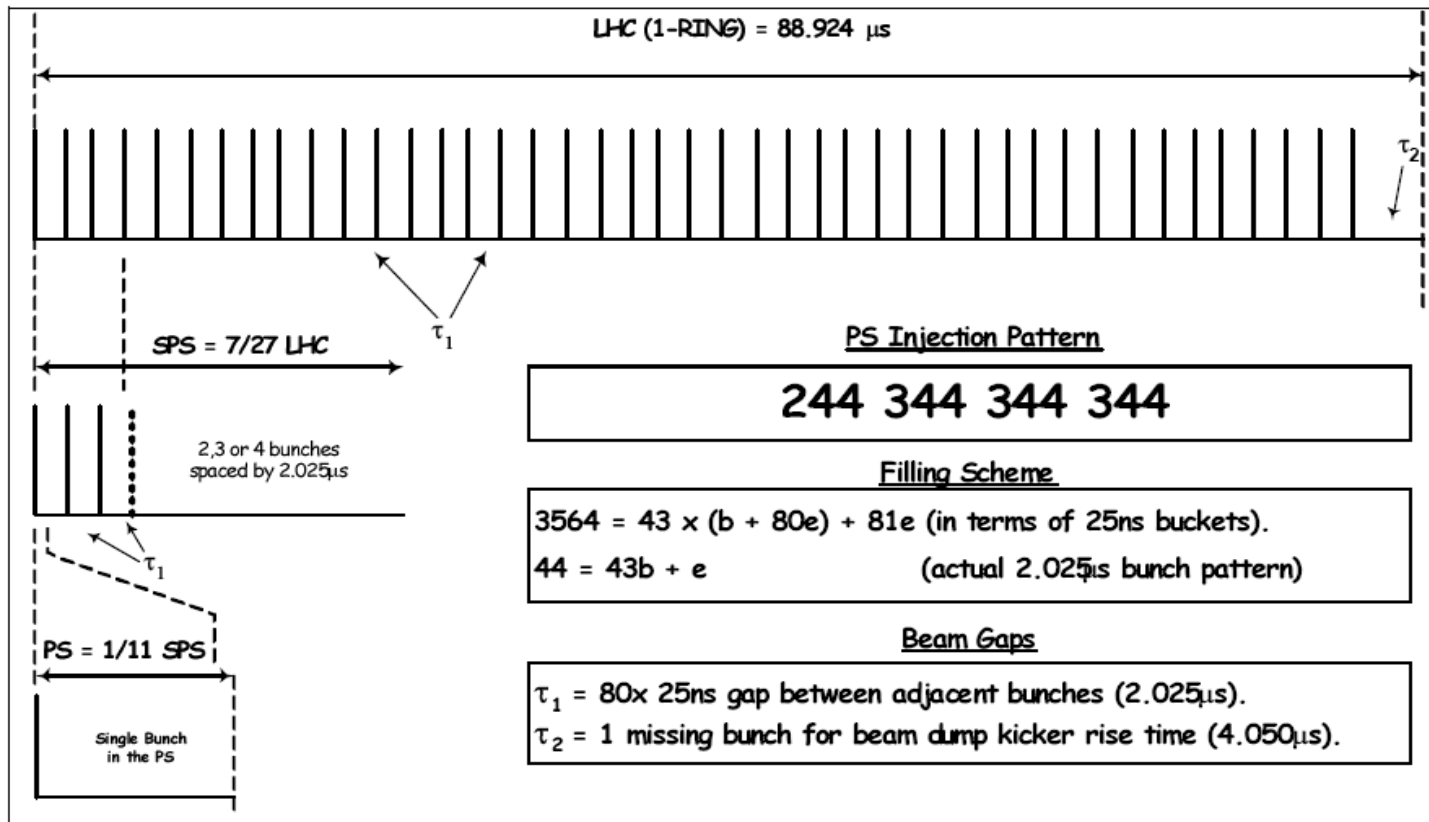

Figure 3: Schematic of the Bunch Disposition for the 43-Bunch Filling Scheme (43 Bunches/Ring).
- ✚ For 43 bunch operation the bunches will occupy buckets 1, 811, 1621, etc. (see Figure 3 above reproduced from *LHC-OP-ES-0003 rev 1.0*).